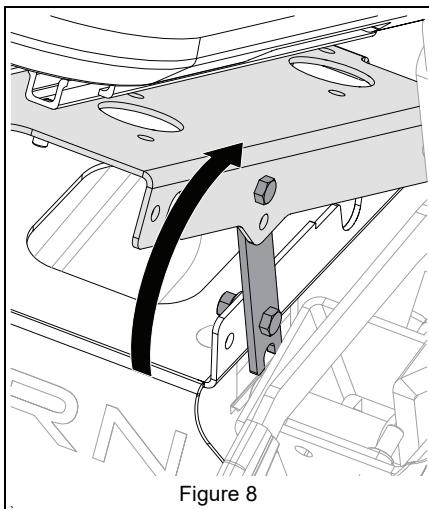

Figure 8
12. Slide seat rearward to the operating position. See Figure 8.